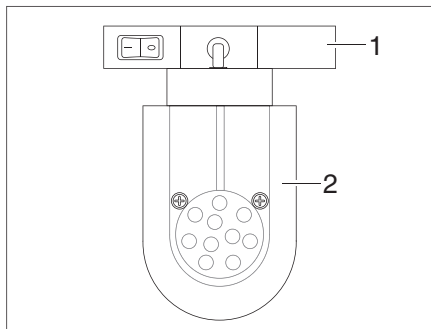

Fig. 89 LED spot light (example)
- Grasp the holder (Fig. 89,1) and turn it by 90°.
- Remove the LED spotlight (Fig. 89,2) from the rail system.
- Insert the LED spotlight (Fig. 89,2) into the rail system at the desired position and turn 90°.